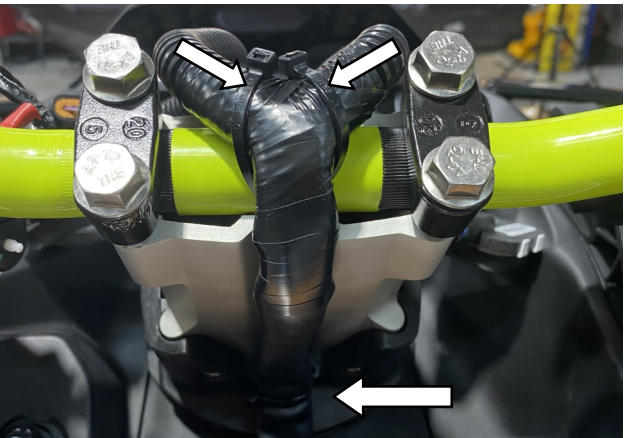

Figure 10
Cut zip ties (3) securing control wiring harness to steering. (See Figure 10)